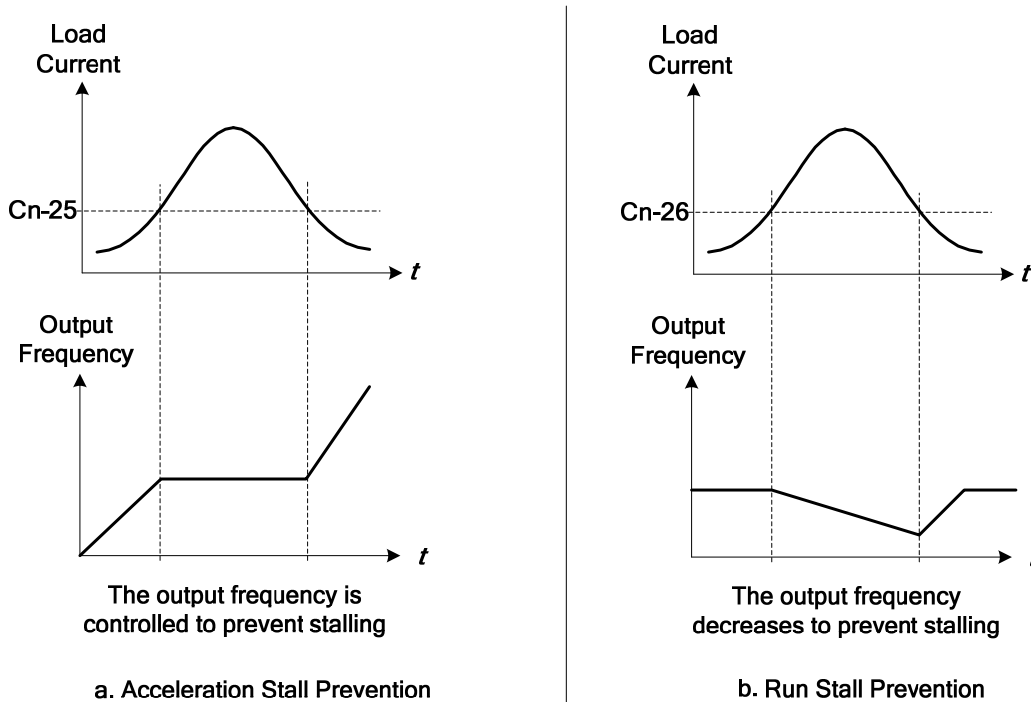

Fig. 9.2.2.7 Stall Prevention Function
- Stall Prevention During Acceleration: Acceleration will stop if Cn-25 setting is exceeded. The acceleration will resume when the current is less than Cn-25. (See Fig. 9.2.2.7a.)
- Stall Prevention During running: Deceleration is started if the run stall prevention level Cn-26 is exceeded. Acceleration will resume when the current level is less than Cn-26. (See Fig. 9.2.2.7b.)